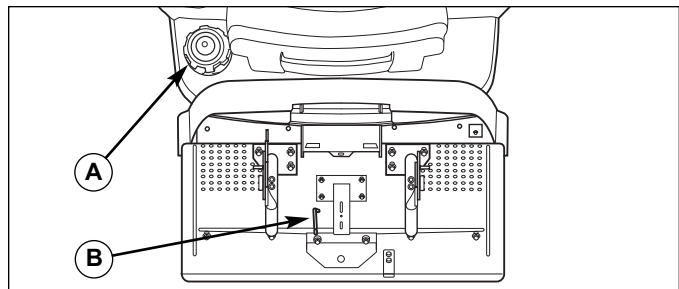

Figure 2. Transmission Release Lever & Fuel Tank
1. Pull up on the cruise control knob (D, Figure 2).
2. Depress the forward ground speed pedal (A).
3. Lift up the cruise control knob (D) when desired speed is reached. The Cruise will lock in one of its five locking positions.
The hour meter (E, Figure 2) measures the number of hours the key has been in the RUN position.